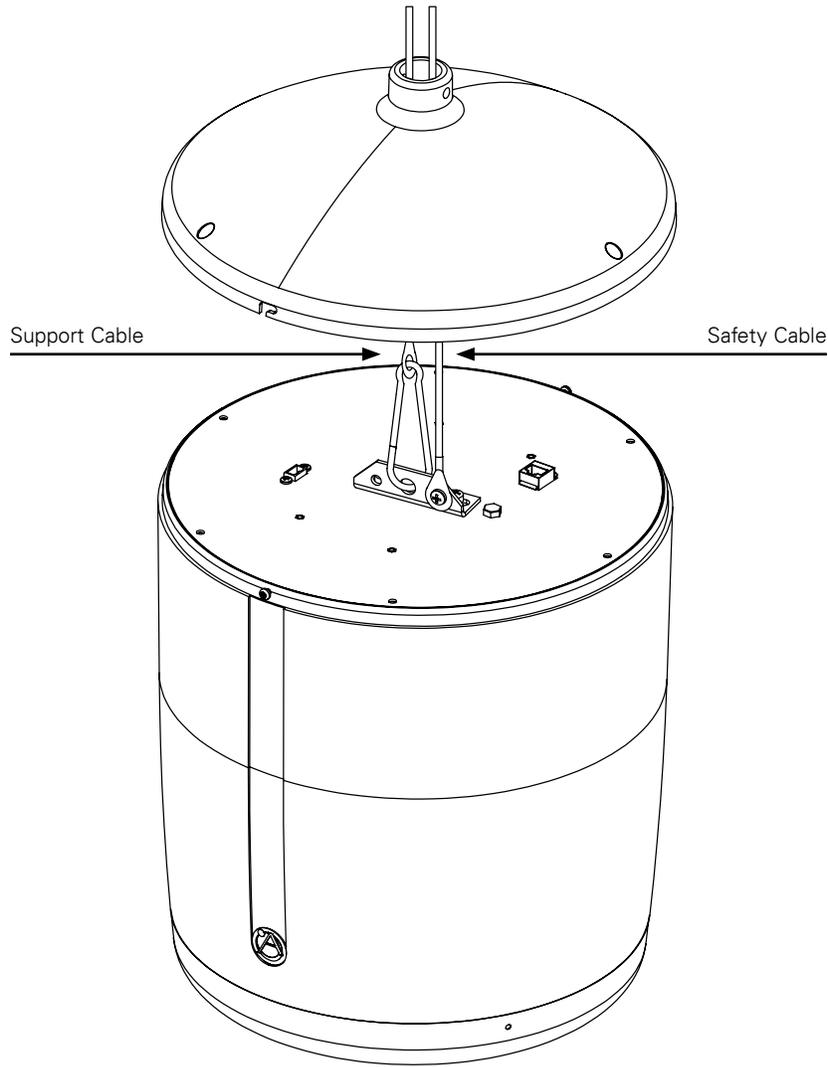

Figure 6
5. Route the eyelet end of the main support cable through the top cover of the IP-PM8GD. Attach the included carabiner clip to the eyelet and the large mounting hole on the back of the IP-PM8GD. (Figure 6)
6. Repeat steps 1 - 4 for the safety cable and attach it to one of the outer mounting holes on the support plate of the IP-PM8GD using the included mounting screw. (Figure 6)